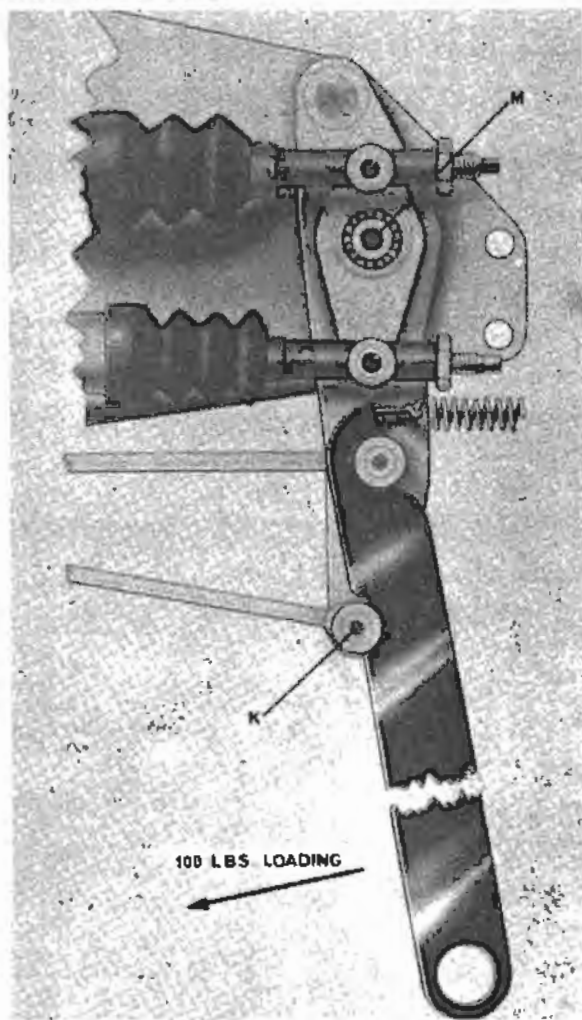

Fig. G.6.—Lever RH.417 in Position.
- (iii) Fix a spring balance to the lever and operate the master cylinder with a pull of 100 lbs. as shown in Fig. G.6. Measure the movement at the bottom clevis pin in the master cylinder lever ("K", Fig. G.6). Should the movement exceed 2.250", the brakes should be bled again and the test repeated.
Every 10,000 miles, the master cylinder balance lever pivot bearing (Fig. G.6) should be lubricated with Shell Retinax "A" Grease.
Measure the forward movement of the master cylinder lever at the bottom clevis pin ("K", Fig. G.6) should this movement exceed 2.250" the brakes should be bled again and the test repeated.
Every 10,000 miles, the master cylinder balance lever pivot bearing ("M", Fig. G.6) should be lubricated with Shell Retinax "A" Grease.